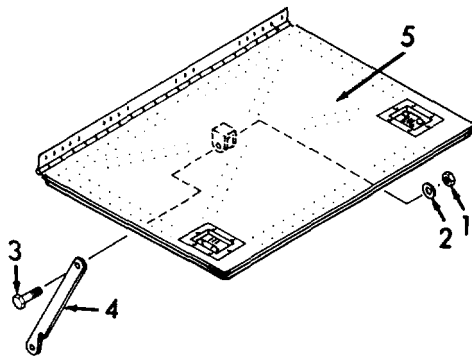

Figure 6-10. Stay, Replacement.
(5) Replacement of stays (Refer to Figure 6-10) as follows: